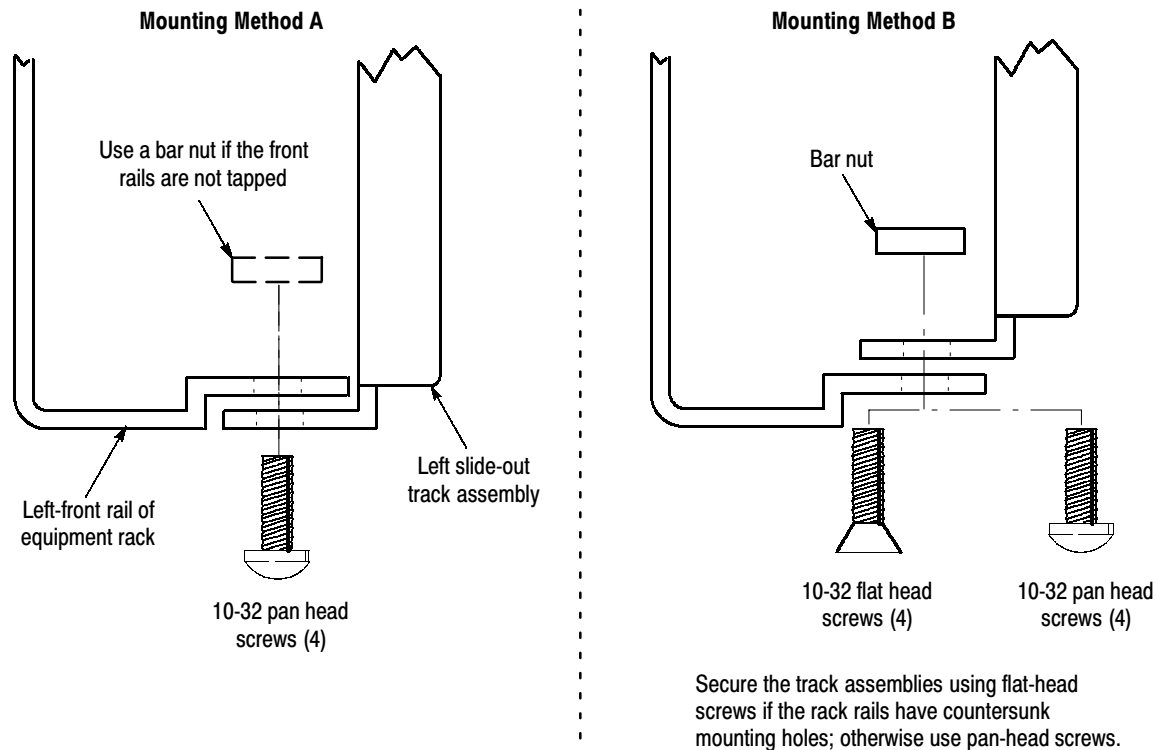

Figure 8: Installing the slide-out track assemblies into the equipment rack (top view)
- a.** To mount the slide-out tracks with their front and rear flanges outside of the front and rear rails of the equipment rack, use mounting method A (as shown in Figure 8) when you perform step 3. Add a bar nut to the installation only if the rails have untapped mounting holes.
- b.** To mount the slide-out tracks with their front and rear flanges inside of rails, use the mounting method B outlined in Figure 8. (This mounting method assumes untapped mounting holes in the rail of the rack.)